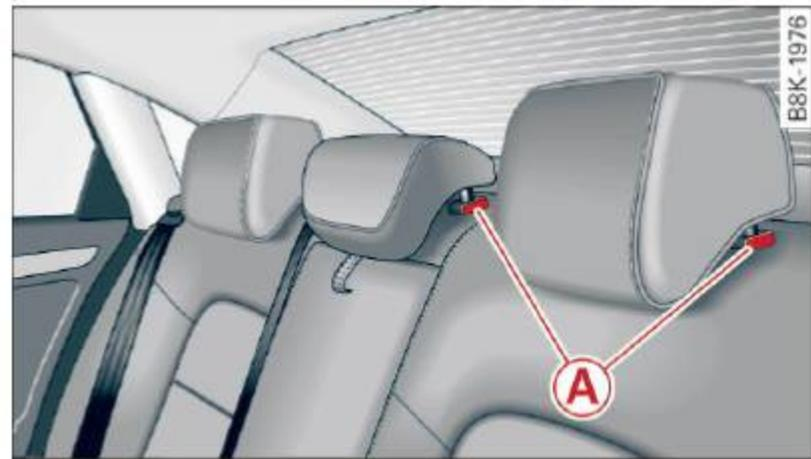
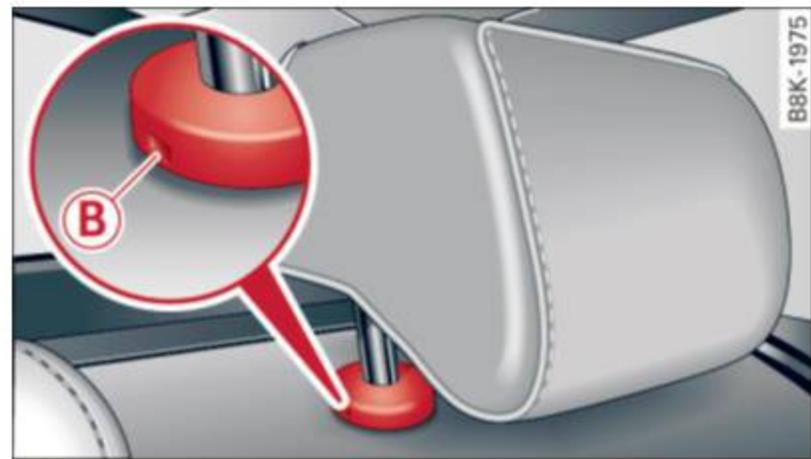

Fig. 62 Rear seat: head restraints
Fig. 63 Rear head restraints: release
- ▶ To move the head restraint down, press the button  ⇒ *fig. 62* and slide the head restraint downward.
- ▶ Press the release  ⇒ *fig. 63* with the mechanical key ⇒ *page 34* and the button  ⇒ *fig. 62*. Pull the head restraint out of the backrest at the same time ⇒ .
- ▶ Press the button **(A)** ⇒ *fig. 62* and slide the head restraint all the way down. You should not be able to pull the head restraint out of the backrest.